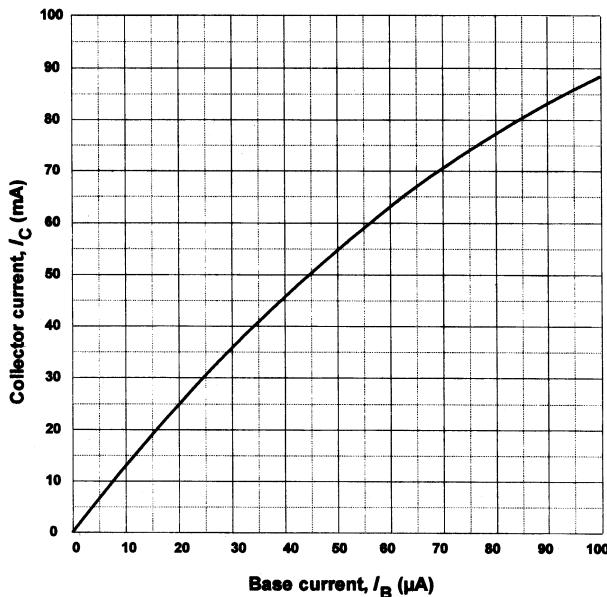

Figure A2.16
36. The transfer characteristic of a transistor is shown in Fig. A2.16. Determine (a) the static value of common-emitter current gain at  $I_C = 50\text{ mA}$  and (b) the dynamic (small-signal) value of common-emitter current gain at  $I_C = 50\text{ mA}$ . [Page 127]